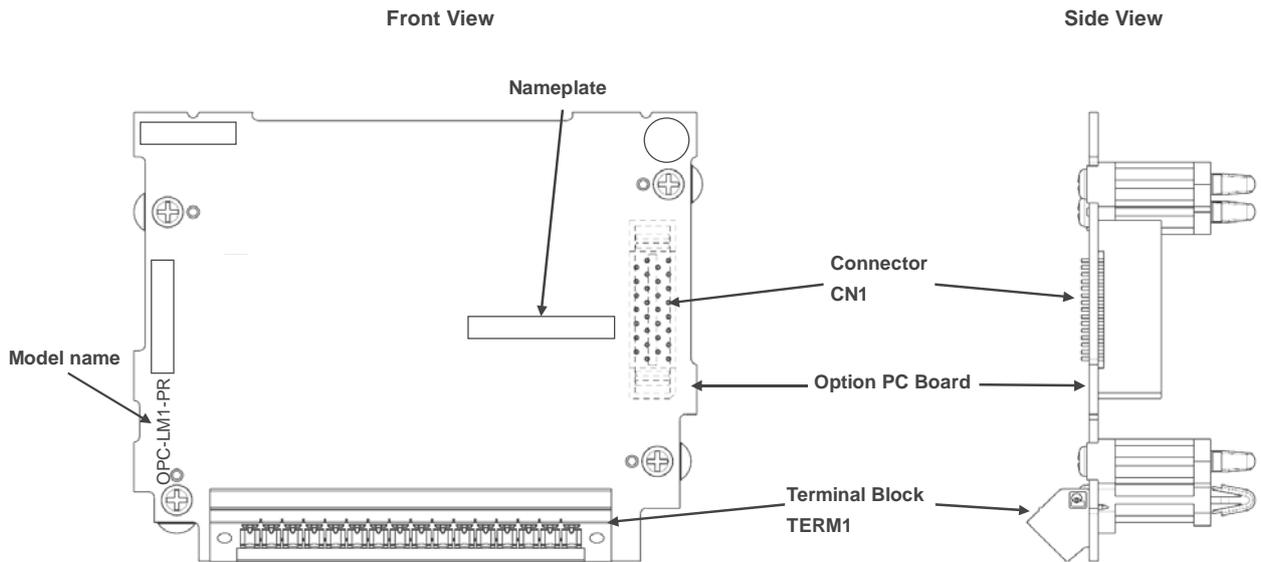

Figure 1.1 Product Appearance.
- (1) The option card is contained in the package.
- (2) The option card is not damaged during transportation--no defective electronic devices, dents or warps.
- (3) The model name "OPC-LM1-PR" is printed on the option card. (See Figure 1.1.)